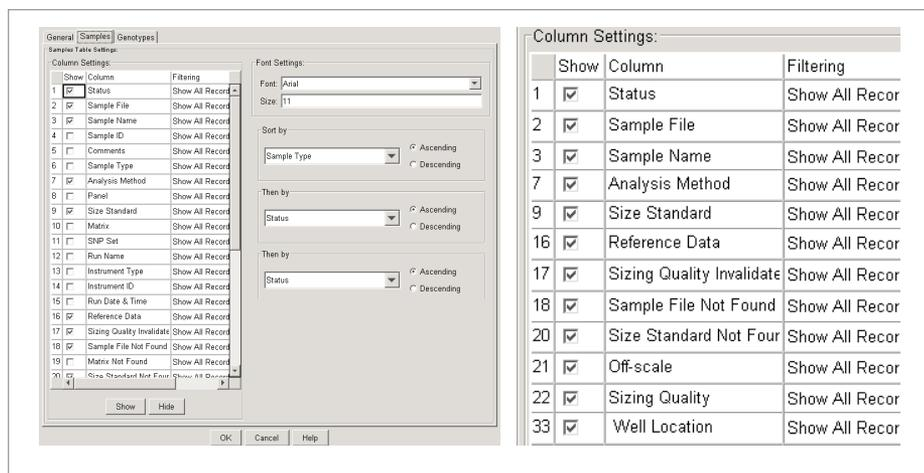

Figure 5. Selecting the Column Settings in the Samples Tab.
8. In the Table Setting Editor, select the Samples tab and check the Column Settings indicated in Figure 5.